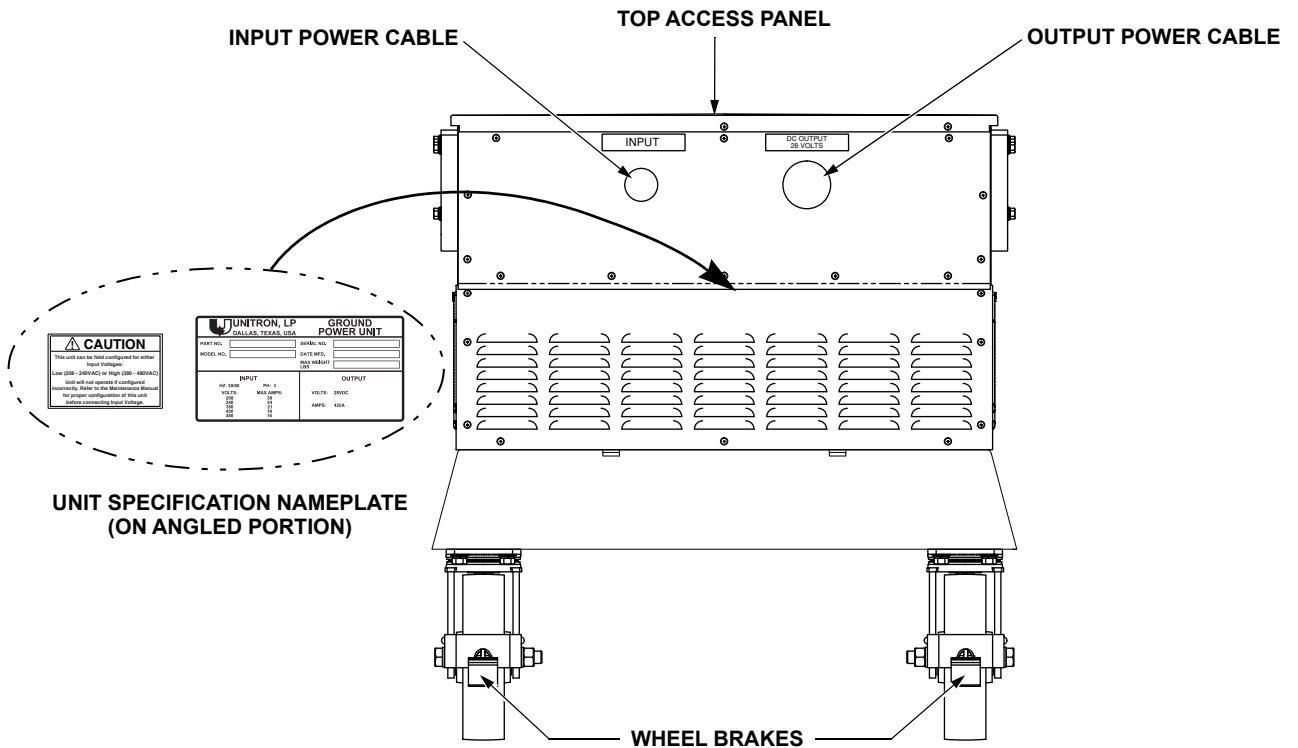

Figure 3. Cable Access Location
A forklift is recommended for transporting the unit to the final location. The push bar attached to the back of the unit is designed for pushing the unit by hand. Refer to Figure 2. The rear wheels of the unit are equipped manual brakes. Set the manual brake on each rear wheel when the unit is stationary. For brake location Refer to Figure 3.
- Entry for the input and output wiring/cabling connections can be made through the rear access panel. Refer to Figure 3.